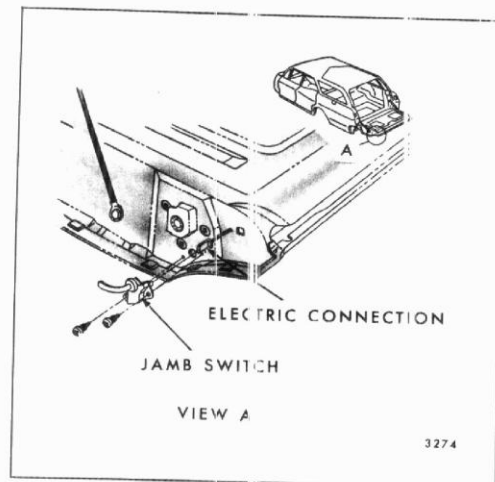

Fig. 9-54-Tail Gate Jamb Switch
1. Remove jamb switch to tail gate attaching screws, disconnect feed wire and remove switch (See Fig. 9-54).